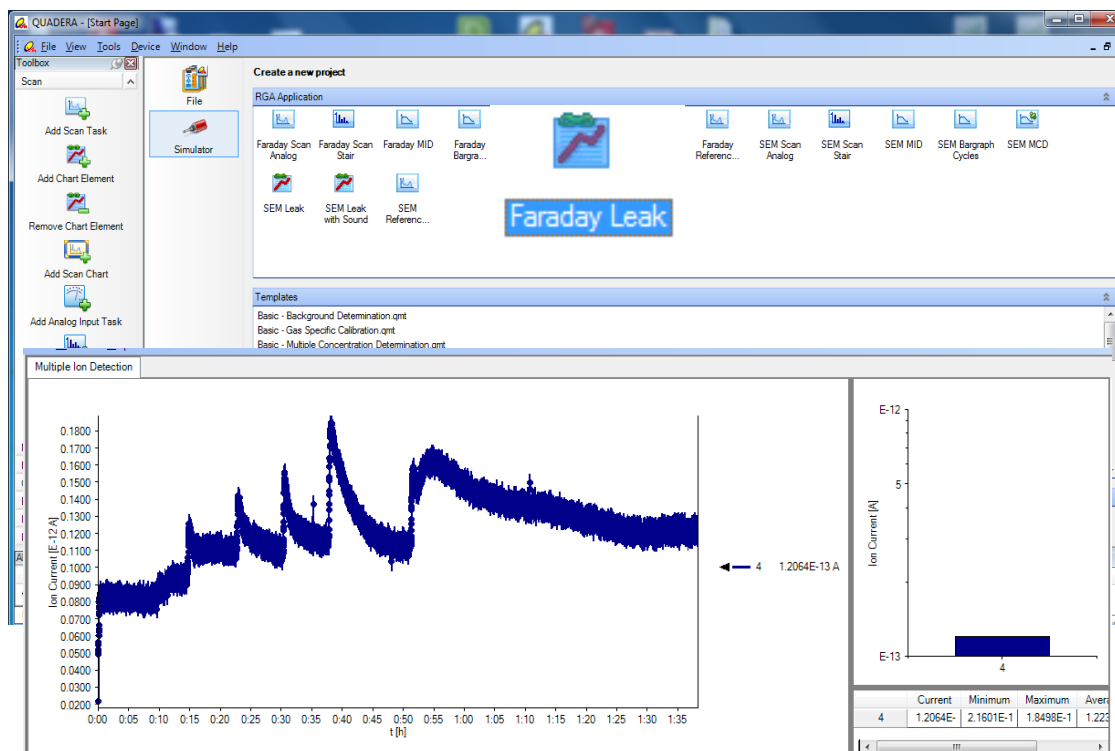

Figure 106: Helium leak test
- **Leak test** is a protocol for the monitoring of very small mass molecule - mostly helium. The measurement monitors the penetration of helium or, conversely, its escape into/from closed systems. The test is used if we need the product or its part to be as gas-tight as possible (**Figure 106**).